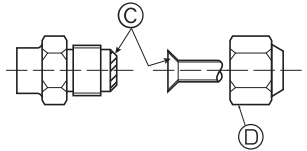

Fig. 4-7
Ⓐ (Fig. 4-7)
Ⓑ (Fig. 4-7)
4.4. Connecting pipes (Fig. 4-7)